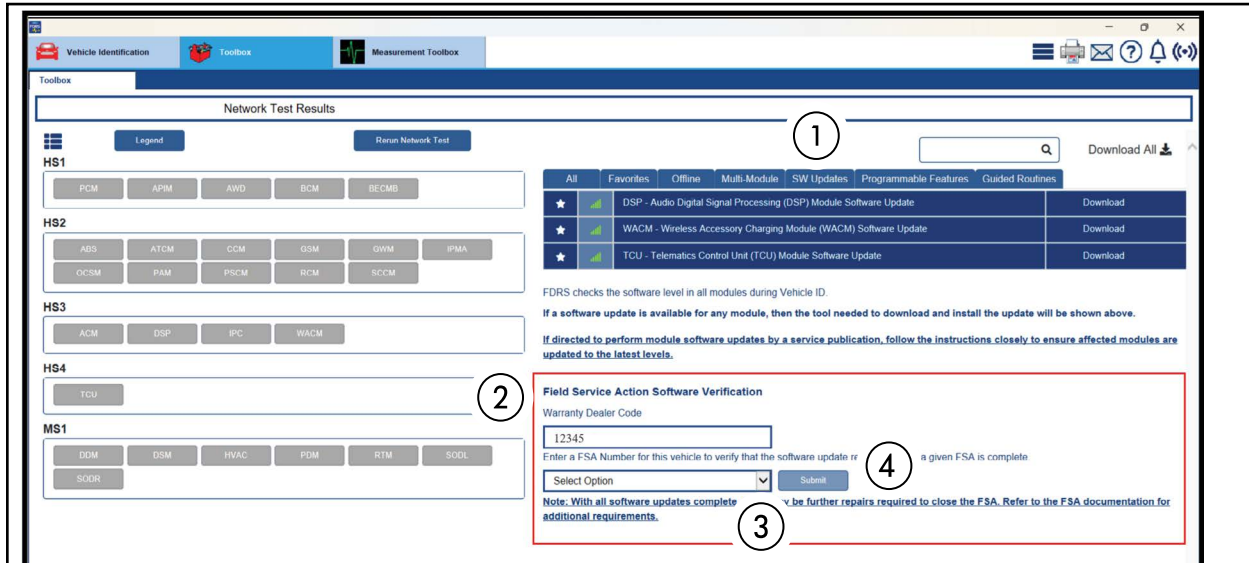

FIGURE 5
38. Select the **SW Updates** tab (1). See Figure 5.
39. **Warranty Dealer Code** (2) - Change the displayed PA code as necessary. See Figure 5.
40. Select the **FSA** (3) from the drop-down menu. See Figure 5.
41. Select **Submit** (4). See Figure 5.